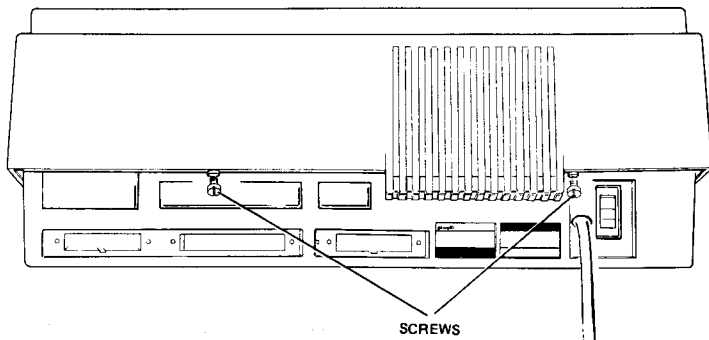

Fig. 5-1 Removal of Basic Module Cover
- 1 - Loosen the two screws at the rear of the Basic Module cover (see Figure 5-1).